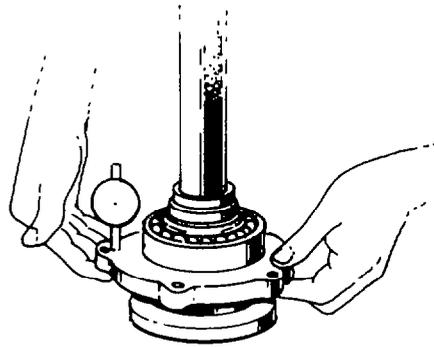

Fig. 243 — Measuring End Play — Front Drive Shaft
- c. Check the bearing end-play by inserting the inner and outer bearing cones with the selective bearing spacer into the retainer. Place the retainer assembly in the press with a suitable tool seated against the bearing cone. Apply a load of 2273 kg (5000 lb) and with a dial indicator check that the end-play is within 0.178 – 0.254 mm (0.007 – 0.010 in.) (see fig. 243). If the end-play is not within these limits, use a thinner spacer to decrease or a thicker spacer to increase the end play.